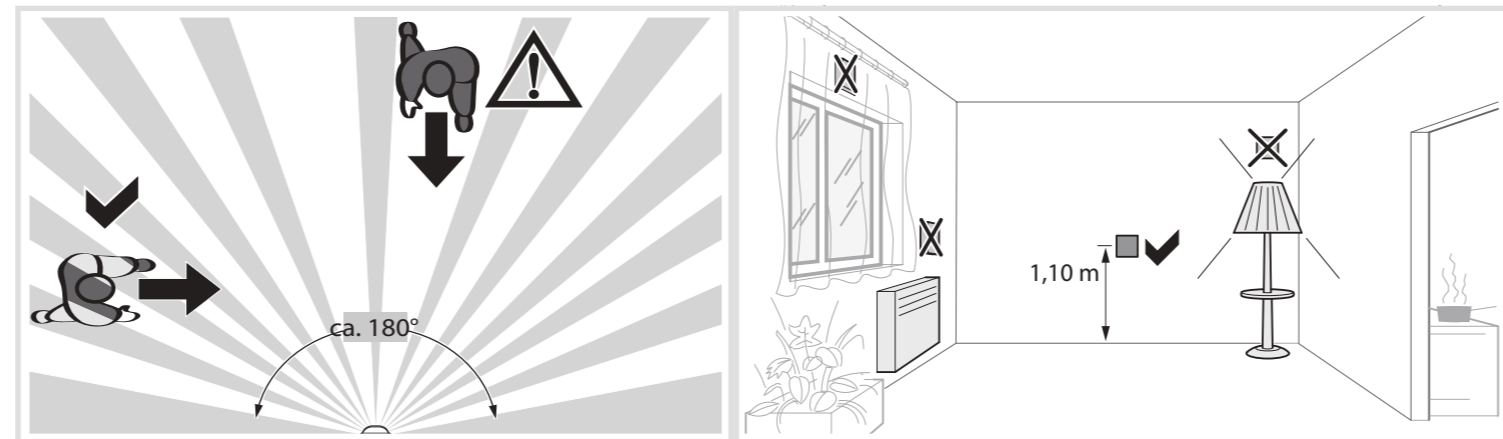
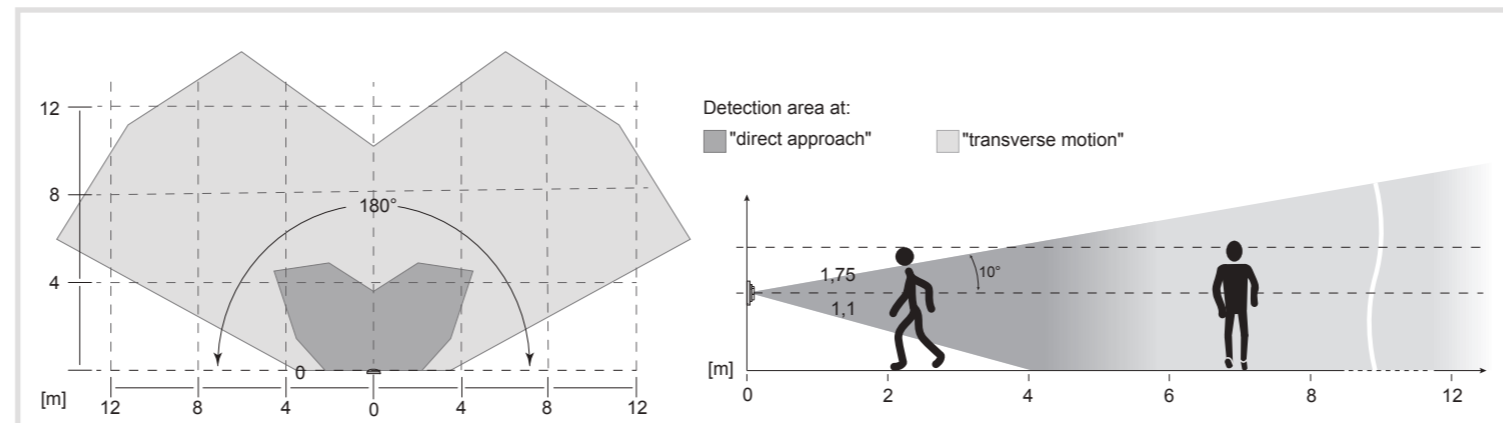

Figure 4: Installation location of the motion detectors and motion orientation
Figure 5: Detection area of the motion detector with nominal installation height 1.1 m
- Observe the motion orientation: a distinction is made between "direct approach" and "transverse motion". Motions transverse to the motion detector can be detected better than motions toward the motion detector (figure 4, figure5).
- Avoid sources of interference in the detection area (Fig. 5). Sources of interference, e.g. heating elements, ventilation systems, air conditioners and lamps that are cooling down can cause undesired switching (Fig. 4).